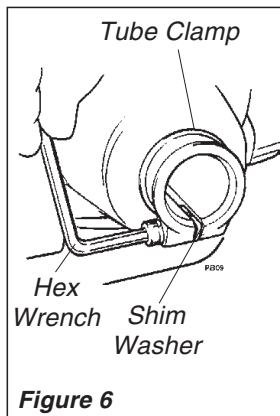

Figure 6
2. Use the 4mm hex wrench to loosen the tube clamp screw. Verify that the D-shaped shim washer is positioned as shown in Figure 6.